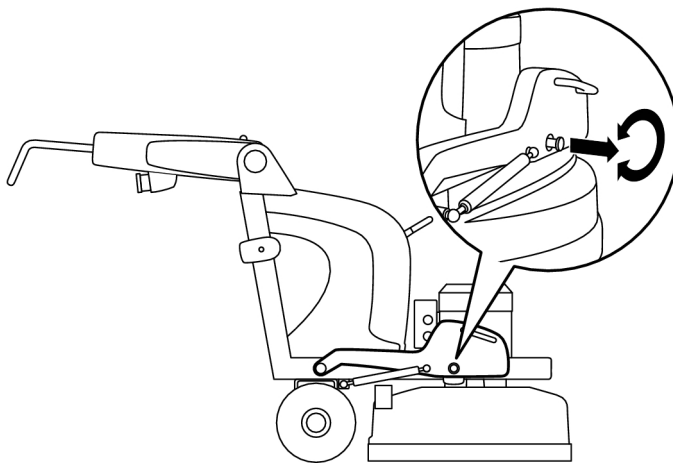

Figure 4-5. Weights lowered forwards
- Pull each pin out and lock in the extracted position by turning in the direction of the arrow, see Figure 4-5, page 19.
To obtain a greater grinding pressure, and thereby increased grinding effect, the weights are lowered forwards, see Figure 4-5, page 19.